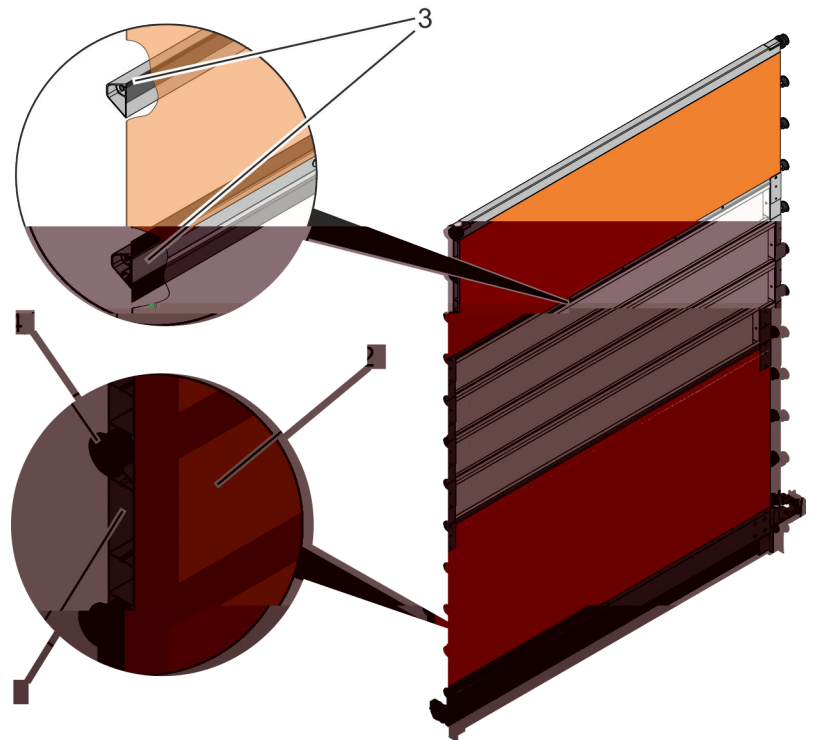

Fig. 17: Door leaf
The door leaf is assembled from extruded aluminium profiles (keder profiles), which are kept at the correct spacing by hinge chains (Fig. 17/1) attached at the sides.
0.6 mm thick PVC-coated polyester fabric (PES fabric) (Fig. 17/2) is installed between the keder profiles as the filling.
Keder (Fig. 17/3) are welded to the PES fabric, thereby connecting the PES fabric and the keder profiles/laths.
This ensures the stability of the door leaf. The spacing created by the hinge chains prevents contact between the keder profiles/laths. They are thus free from wear. The forces for opening and closing the door system are transmitted via hinges. Ball-bearing mounted rollers (Fig. 17/4) keep the door leaf firmly in the guides in the horizontal direction.